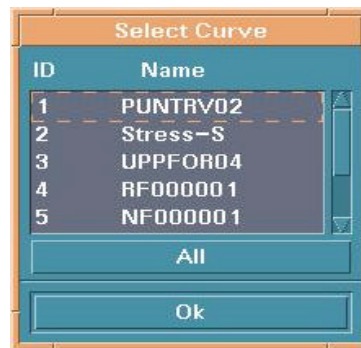

Figure 10.11.3 Select Curve
- Select a curve in the SELECT CURVE window. The user can select all curves by selecting ALL. See Figure 10.11.3.
- Select the load curve in the SELECT CURVE dialog window. See Figure 10.11.3.